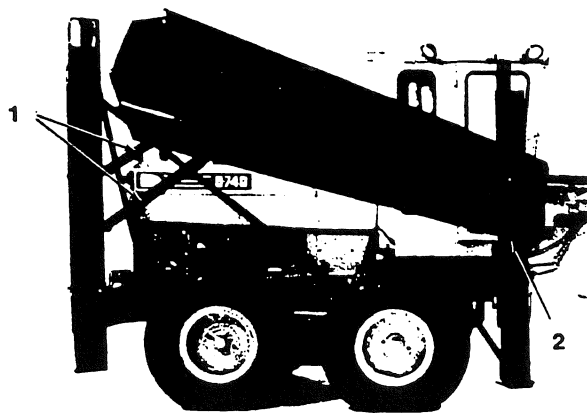

Figure 26
36. Adjustments (Figs. 21 and 26). The amount of wing blade angle and pitch can be varied by adjusting the inner sleeves within the outer sleeves of the stand-off arms. Remove the cotter pins and shear pins, adjust the inner sleeves, and install the shear pins in the nearest alternative hole (1, Fig. 26). Secure with the cotter pins. Wing blade front end height adjustment is achieved by selecting an alternative hole in the blade strengthening plate (2, Fig. 26).